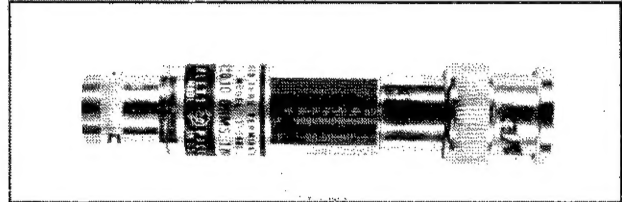
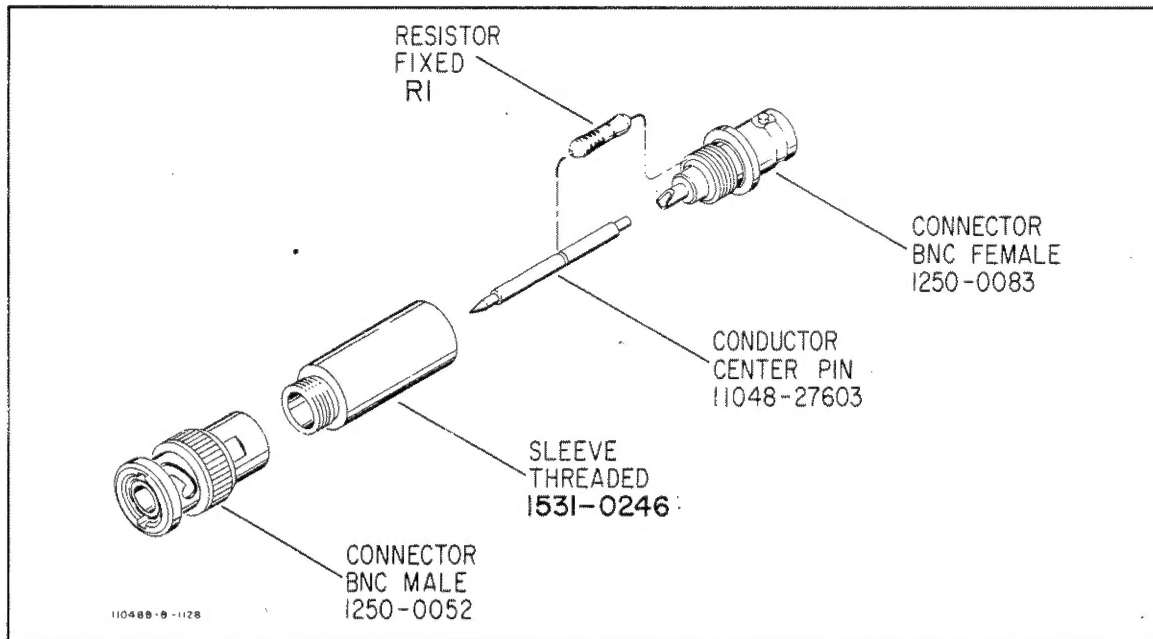

Figure 1. 11048C 50 Ohm Feedthru Termination.
Figure 2. Exploded View.
2. A view of the 11048C is shown in Figure 1. Figure 2 shows an exploded view along with parts identification. Table 2 gives a description of terminating resistor R1 for each of the feedthru terminations.